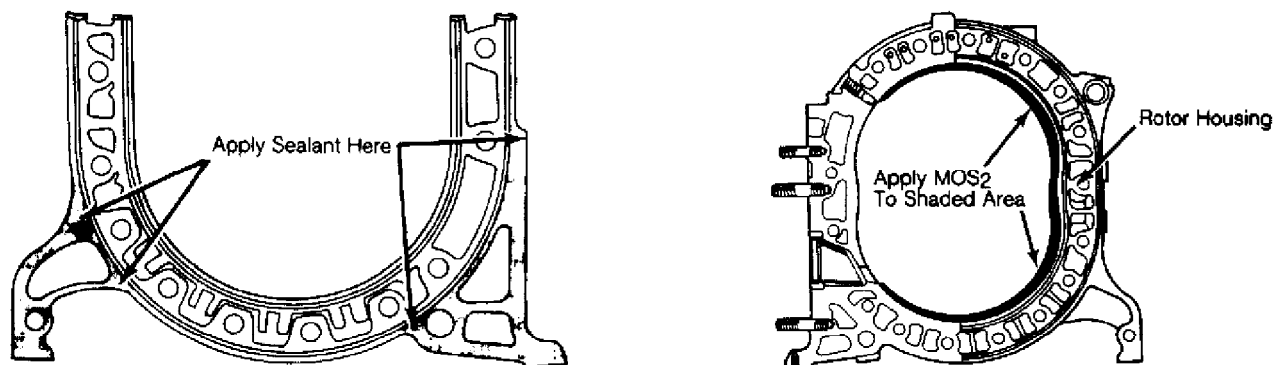

Fig. 22: Applying Sealing Agent & MOS2 to Rotor Housing
apply a light coating of MOS2 (molybdenum disulphide) grease to surfaces on front and rear housing. See Fig. 22.
6) Apply sealing agent on the rear side of front housing. See Fig. 22. Install new "O" ring, sealing rubbers and protector on rear side of front housing. Lubricate seals and sliding surfaces of front rotor housing with engine oil.